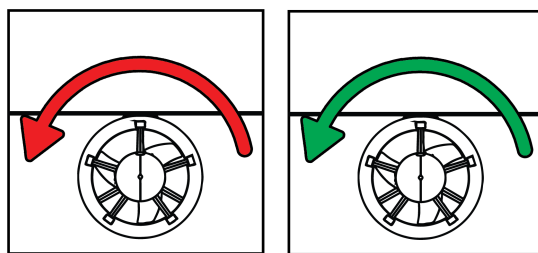

Figure 25: HyDrone™ ASV Prop Rotation
- Motor must rotate counterclockwise(CCW) (Figure 25)